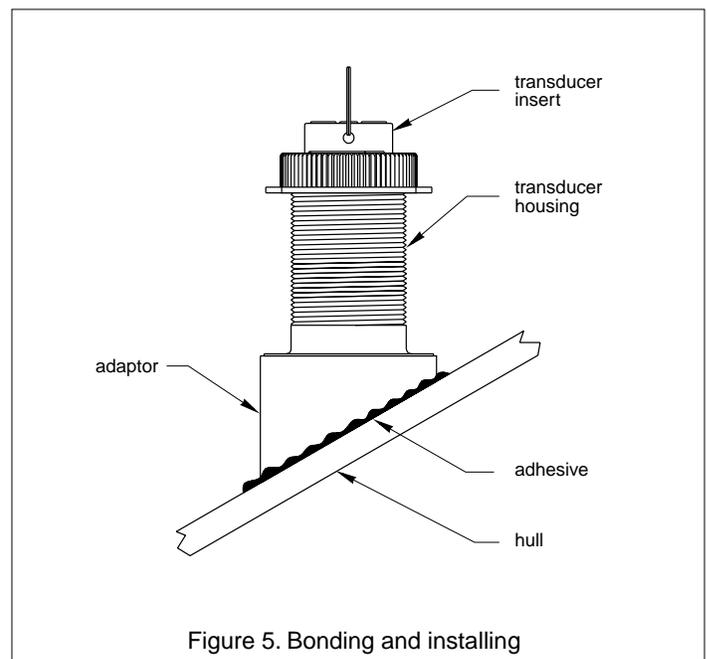

Figure 5. Bonding and installing
3. When you are satisfied that the location of the transducer is optimal and the orientation of the adaptor corresponds to the deadrise angle of your boat, apply a bead of recommended adhesive such as Boatlife®'s Lifeseal® or 3M™ #4200 to the bottom edge of the adaptor. (Follow the adhesive manufacture's instructions for use.) Press the edge firmly in place to form a liquid-tight seal. Apply a second bead of adhesive around the outside of the adaptor (see Figure 5).